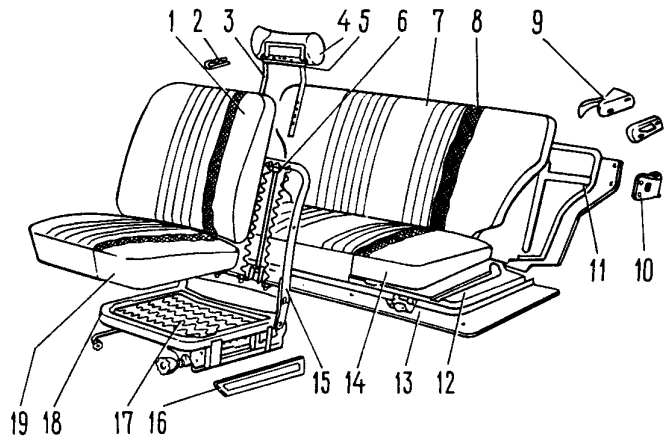

Fig. 8-30. Seats:
**Front seats.** To take out the seat (Fig. 8-30) tilt it forward and unscrew the bolts holding it to the framework.
**Rear seat.** Force off seat back retainers 9 (Fig. 8-30) and secure the back with the strap located under the cushion. Unscrew the bolts that fasten the cushion hinges to the floor crossmember and take out the seat.